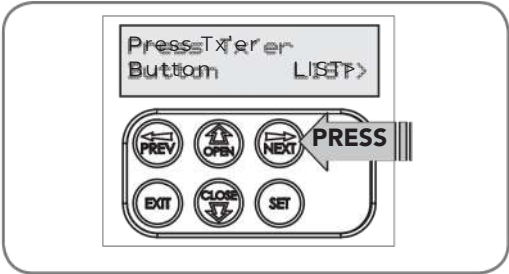

Fig H.1
- a. Press NEXT to navigate toMenu 1 (Fig.H.1).
- a. Press NEXT tonavigate toMenu 1 (Fig.H.1)